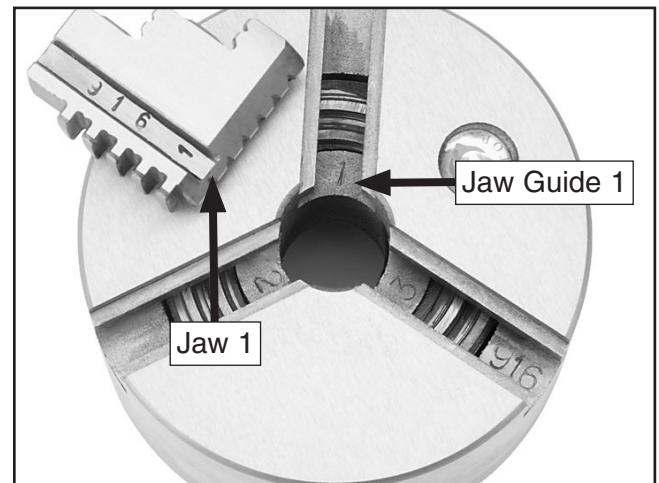

Figure 18. Jaw and jaw guide stamped with corresponding numbers.
2. Examine the sides of the jaws—each is stamped with a number 1 through 3. Examine the jaw guides of the chuck—each is stamped with a corresponding number (see **Figure 18**)